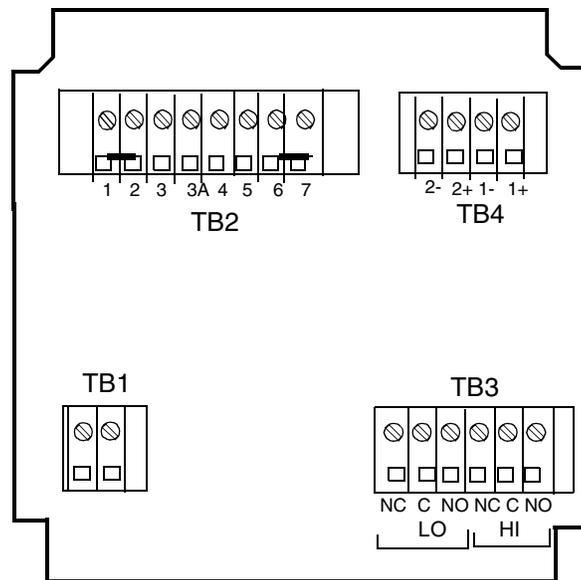

Figure 24. Bench Calibration (NEMA 4X Version Shown)
- e. Connect resistor corresponding to calculated Cal Hi Value between terminals 1 and 2 of TB2 (see Figure 24).
- a. Connect a  $.001\ \mu\text{F}$  polycarbonate capacitor across terminals 1 and 2 of TB2 leaving the resistor connected from the previous step (in parallel with the resistor). Refer to Figure 24.
- e. Connect resistor corresponding to calculated value between terminals 6 and 7 of TB2. See Figure 24.
- a. Connect a .001  $\mu\text{F}$  polycarbonate capacitor across terminals 6 and 7 of TB2 leaving the resistor connected from the previous step (in parallel with the resistor). Refer to Figure 24.